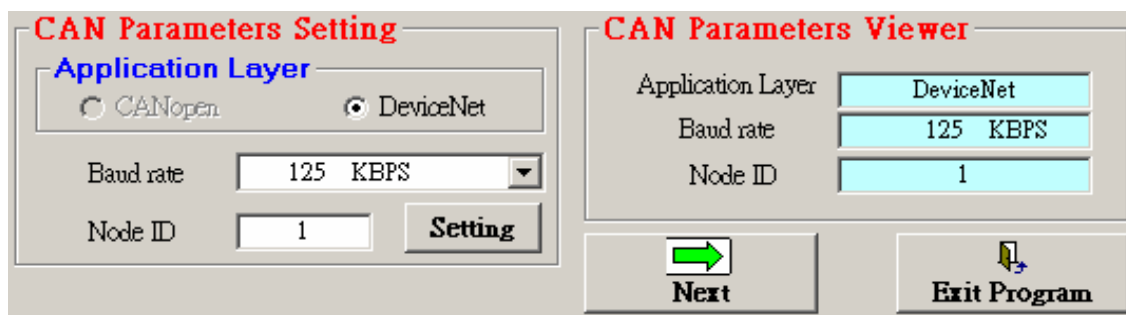

Figure 6-20. “CAN Parameter Setting & Viewer”
**Step 6:** Click the “CAN Bus” button, , so that the CAN bus configuration information will be given. Then, users can set the necessary CAN bus communication information. Afterwards, click the “Setting” button to finish the CAN parameter setting. The CAN Parameter Viewer frame on the right hand side indicates the parameter setting result. After clicking the “Setting” button, users can see that the each field value of the CAN Parameter Viewer frame is changed to the value configured in the CAN Parameter Setting frame on the left hand side as figure 6-20.